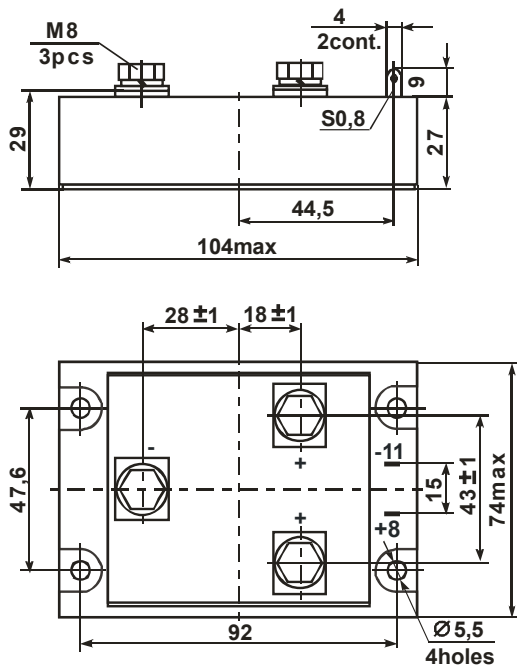

Figure 6.3 – Overall drawing of modules MT14, MT15D with maximum current 200, 240 A
**MT14PTA(B)-PP3** – a module based on MOSFET-transistor shunted with a reverse fast-recovery diode in a housing corresp. to Fig.6.3 with inbuilt protection circuits.